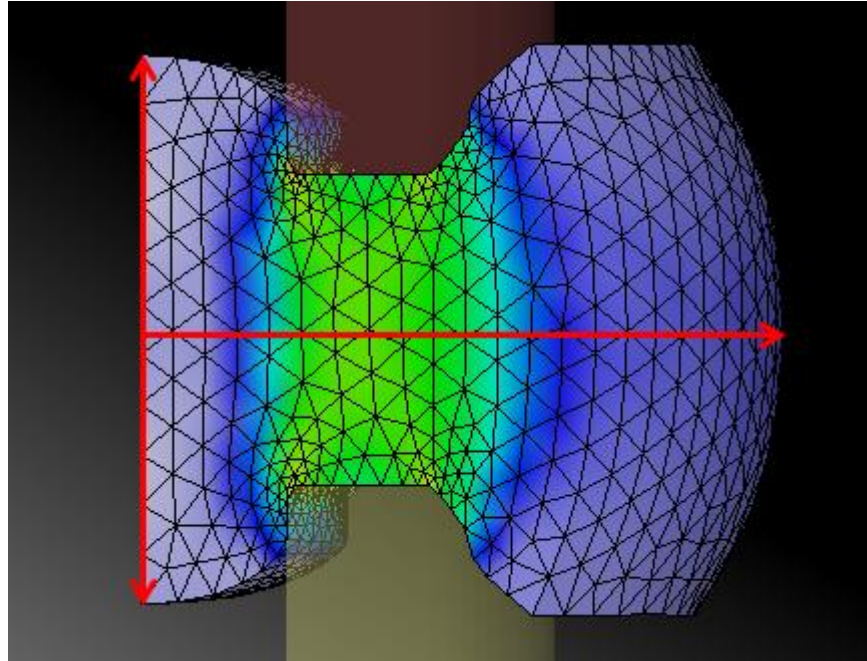

Figure 2: Formed Height Measurement
5. Measure and record the maximum height of the center “bubble”, and the maximum diameter of the formed part (Figure 2)